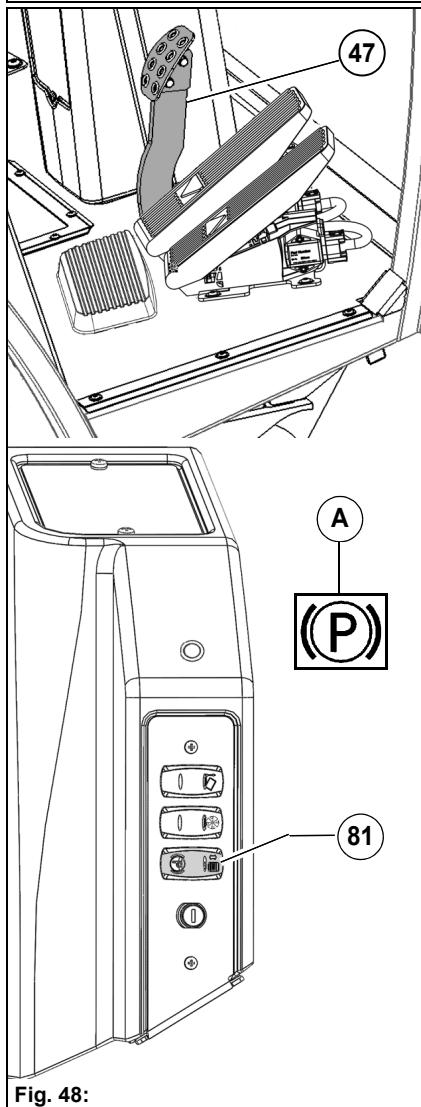

Fig. 48:
- The warning symbol **Fig. 48-A** appears in the multifunctional display.
- Press the switch **Fig. 48-81**. The parking brake is released again. With the parking brake released the warning light **Fig. 48-A** goes out.